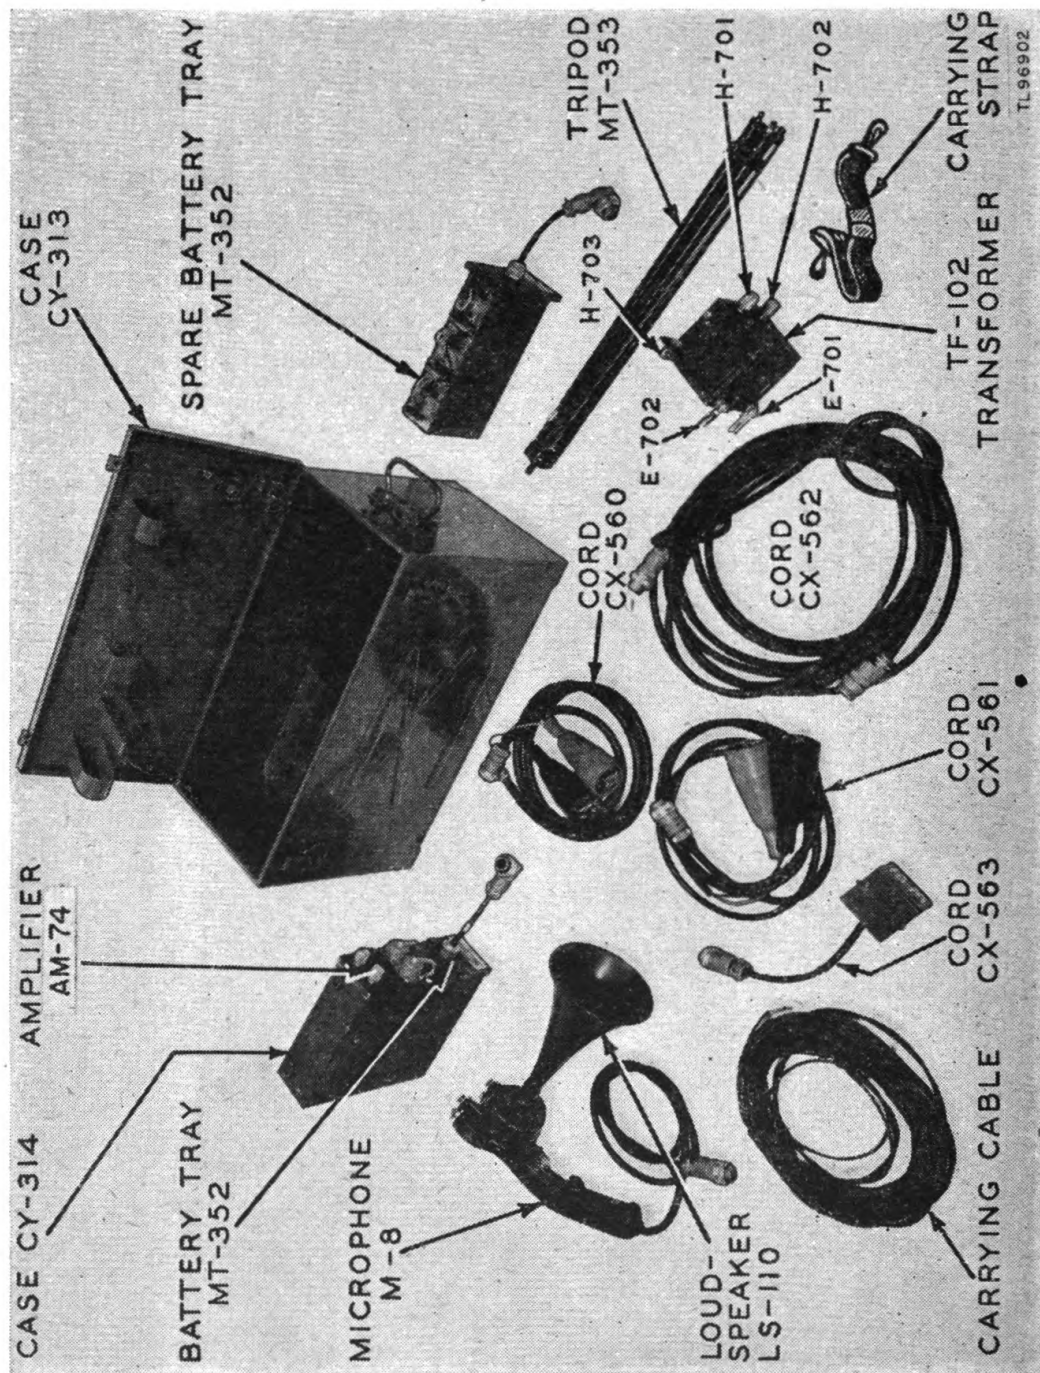

Figure 2. Components of Public Address Set AN/PIQ-1.
7. DESCRIPTION OF MAJOR COMPONENTS (fig. 2).
k. **Cords and Cables (fig. 2).** Four cords and one cable (25 feet of Wire W-110-B) are provided and are carried in Case CY-313. All cords are covered with a rubber jacket to make them water-resistant, give longer life, and to resist abrasion.